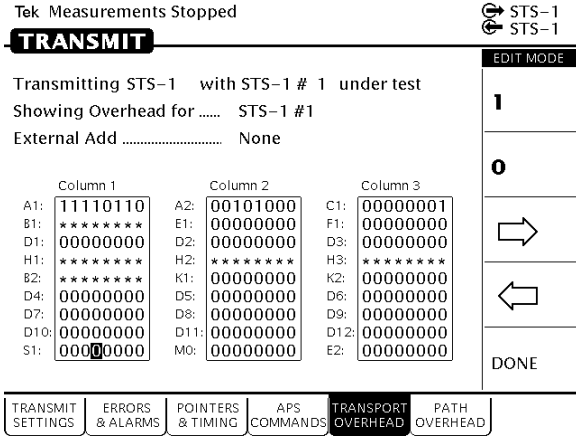

Figure 3–29: Editing an Overhead Byte
- Define your own byte with the buttons next to **1** and **0**. Use the left and right arrow buttons to move the cursor from one bit to the next. See Figure 3–29.